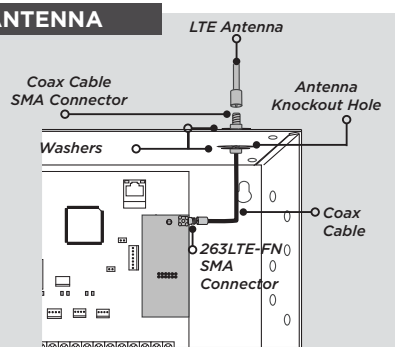

Figure 5: XR Series Panels
4. Attach the included LTE antenna to the coax cable SMA connector. See Figure 5.